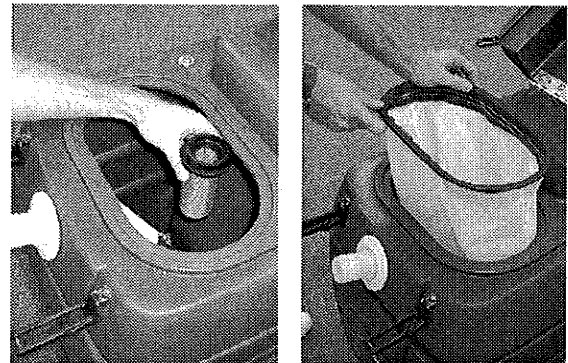

FIG. 5
2. Clean the float shut-off screen and filter bag located in recovery tank after each use (Figure 5).